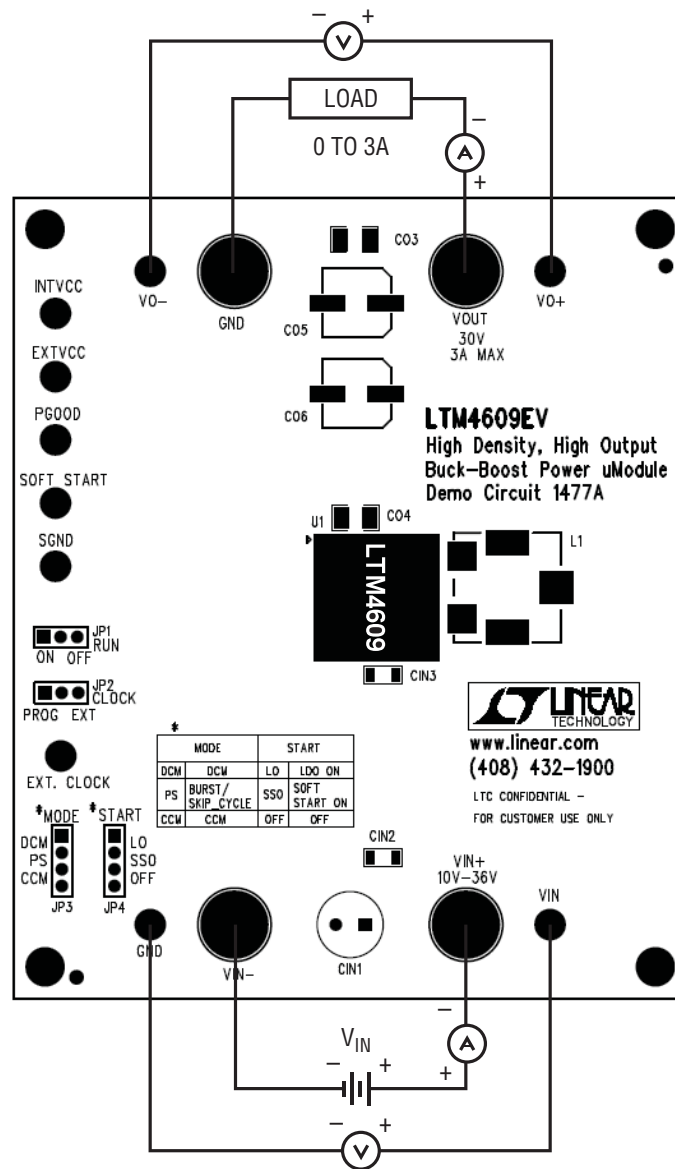

Figure 1. Test Setup of DC1477B
Demonstration circuit DC1477B is an easy way to evaluate the performance of the LTM4609EV. Please refer to Figure 1 for proper measurement equipment setup and follow the procedure below:
2. With the power supply off, connect the input power supply, load and meters as shown in Figure 1. Preset the load to 0A and V_{IN} supply between 10V to 36V.